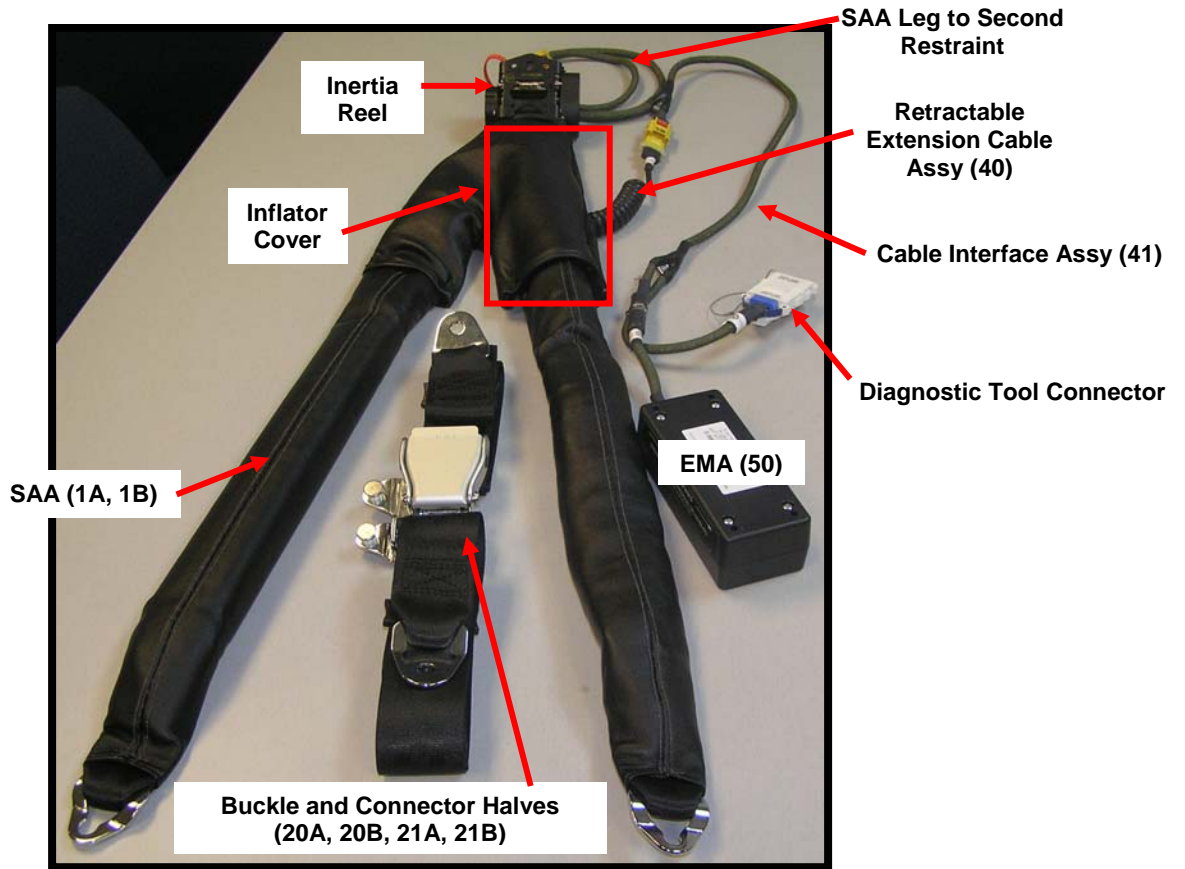

Figure 1 – Representative Four-Point V23 System Components
The SAA (1A, 1B) consists of two primary subassemblies; the Four-Point Airbag Belt Assy and the Connection Assembly (see Figure 1). The SAA mounts to seat and aircraft structure using existing mounting points. The Retractable Extension Cable Assembly (40) provides the electrical connector to the Inflator Assy (30) and the Cable Interface Assy (41).
The Inflator Assembly (30) (Figure 1) is within the Inflator Cover of the SAA. The Inflator Assembly is designed to be thrust-neutral without modification for shipping and storage.
The Cable Interface Assy connects the EMA (50) to two Retractable Extension Cable Assemblies and also provides a Diagnostic Tool Connector leg (see Figure 1). The Diagnostic Tool Connector connects to the System Diagnostic Tool to facilitate system functional checks.